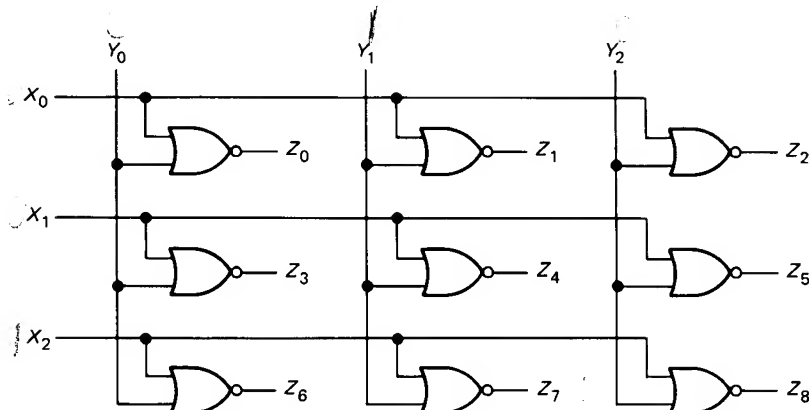

Fig. 3-26 NOR-gate crossbar switch.
- 3-3. Figure 3-26 shows a NOR-gate *crossbar switch*. If all X and Y inputs are high, which of the Z outputs is high? If all inputs are high except X_1 and Y_2 , which Z output is high? If X_2 and Y_0 are low and all other inputs are high, which Z output is high?
- 3-4. In Fig. 3-26, you want Z_7 to be 1 and all other Z outputs to be 0. What values must the X and Y inputs have?
3-17. Suppose the NOR gates of Fig. 3-26 are replaced by NAND gates. Then you've got a NAND-gate crossbar switch.